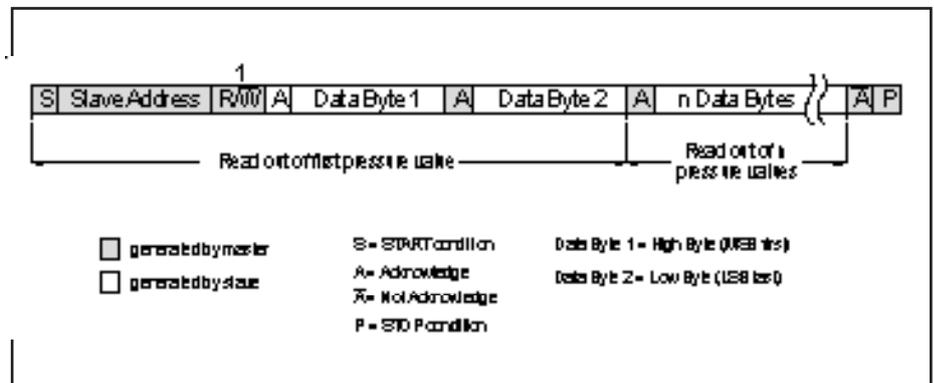
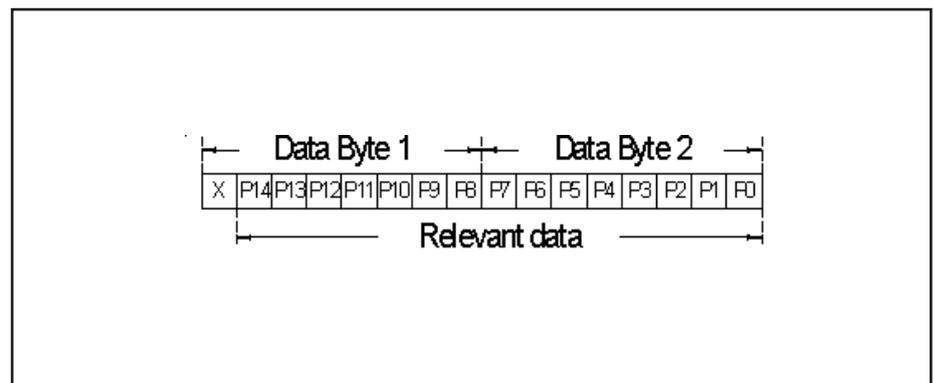

Fig. 9: Readout of digital pressure information using I²C bus protocol
Fig. 10: Two data bytes containing the pressure value as a 15 bit information
To read out a pressure value the master generates a START condition and sends the sensors slave address (either the hard coded address 0x1111000bin or the secondary factory programmed address) followed by a READ command (R/W=1) (see Fig. 9). At the moment of the first acknowledge (A) from the sensor, the master-transmitter becomes a master-receiver. The sensor starts to send two data bytes containing the current pressure value as a 15 bit information placed in the output registers of its ASIC (see Fig. 10). The master must acknowledge the reception of the first data byte. To terminate the pressure reading from the sensor the master sends a STOP condition. The sensor is also able to send pressure values "online". That means if the master does not send a STOP condition but an acknowledge after the third exchanged byte the sensor-slave will go on sending the last available pressure value when it is clocked.